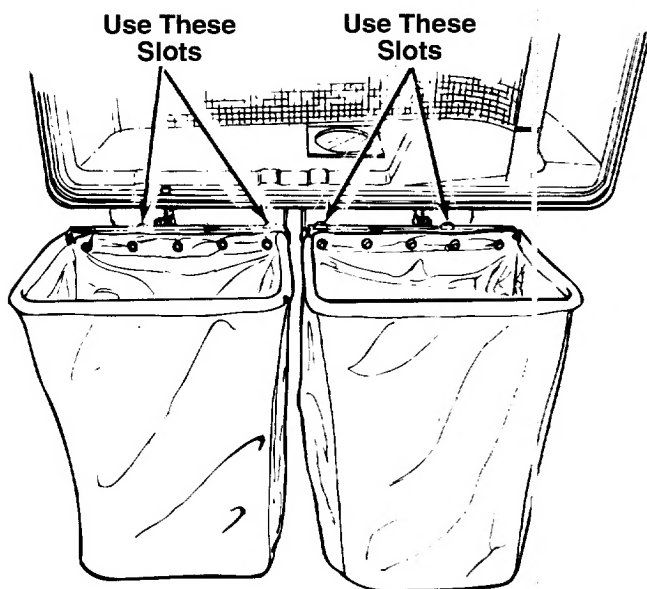

FIGURE 12.
5. Attach the grass bags using the slots shown in figure 12.